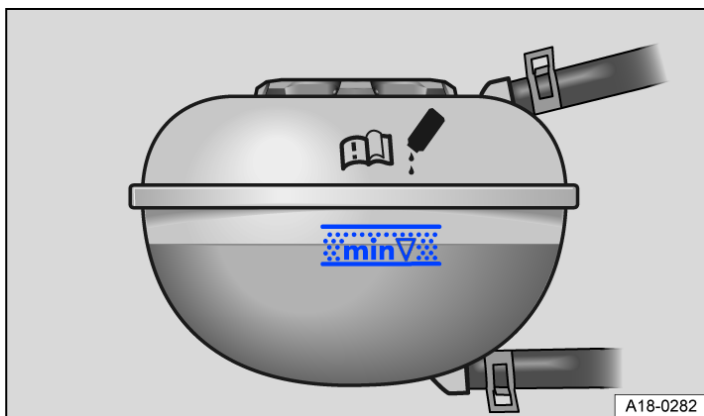

Fig. 2 In the engine compartment: markings on the coolant expansion tank (illustration).
- When the engine is cold, check the coolant level at the side markings of the coolant expansion tank → *Fig. 2*. The coolant level must be between the marks.
- After adding the coolant, the coolant level must be between the markings on the coolant expansion tank → *Fig. 2*.